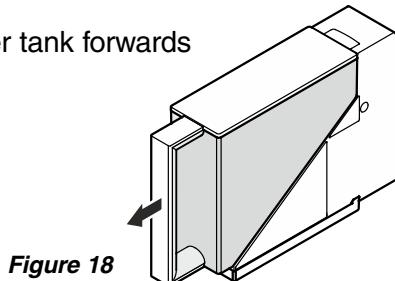

Figure 18
- Pull out the water tank forwards (**Figure 18**).